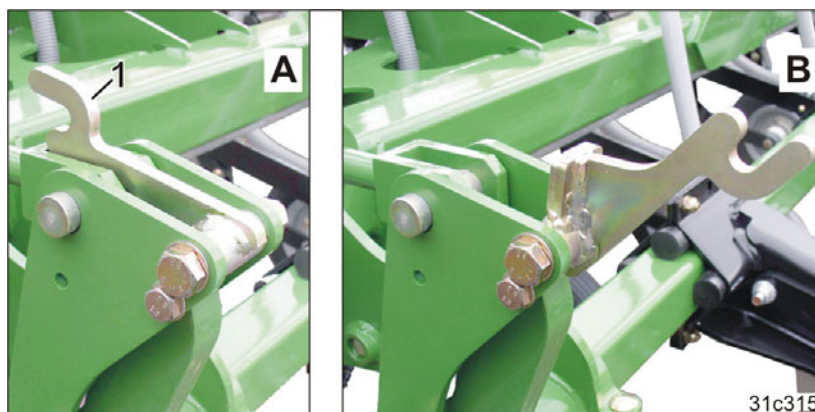

Fig. 204
2. Swivel the lever (Fig. 204/1) as shown in Figure (Fig. 204/B).
After unfolding, the lever (Fig. 204/1) automatically returns to the position shown in Figure (Fig. 204/A).
Actuating the lever (Fig. 204/1) before folding the implement booms causes the coulters the swivel to a transport height of 4.0 m.